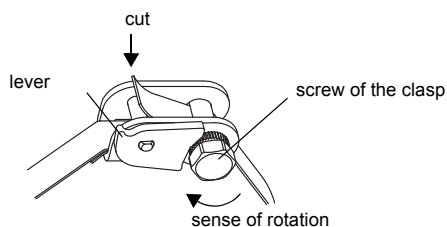

Fig. 7.15: Ratchet clasp with tension strap
- Cut off the protruding tension strap (see Fig. 7.15).